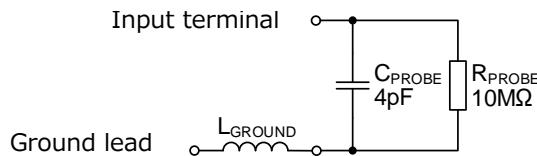
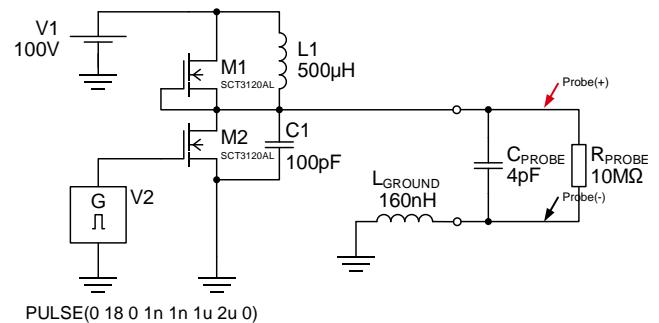
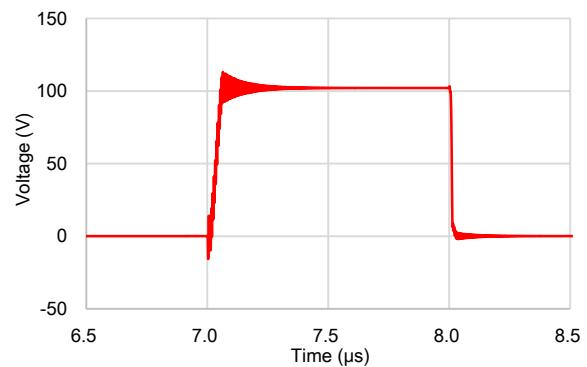

Figure 3. Example of an equivalent circuit to the probe
Figure 14. Simulation circuit with the addition of an equivalent circuit to the probe
Figure 15. Waveform resulting from the simulation in Figure 13
Figure 3 shows an example of an equivalent circuit to the probe. In addition, the resonance equation is expressed as Equation (1). When the ground lead is 160 mm in length and the inductance per 1 mm is estimated at 1 nH, the inductance is 160 nH. From Equation (1), the resonance frequency is approximately 200 MHz.
Next, on the assumption that a probe is used for monitoring, Figure 14 shows a circuit diagram where the simulation is performed with the addition of the equivalent circuit in Figure 3. The result is shown in Figure 15. The ground lead is assumed to be 160 mm in length, having 160 nH of inductance. A large ringing occurs in the waveform, showing a major difference from the original waveform.